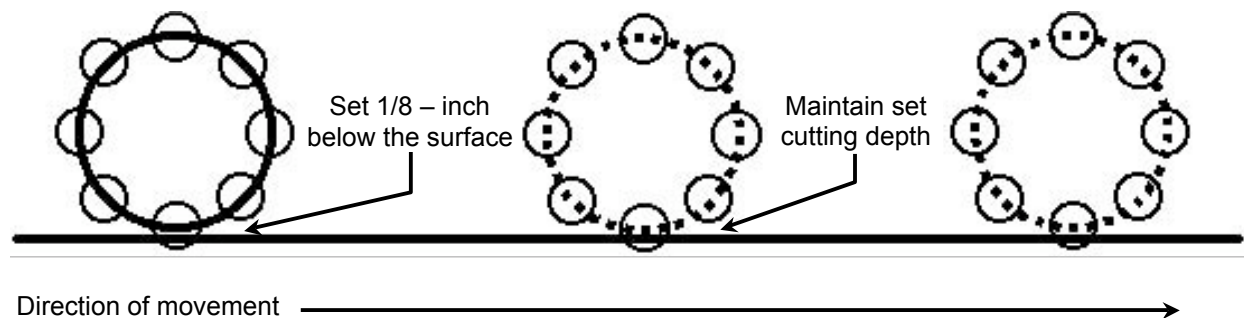

Figure 2
- E) Repeat Steps A through D until the desired number of grooves are cut (See Figure 2)